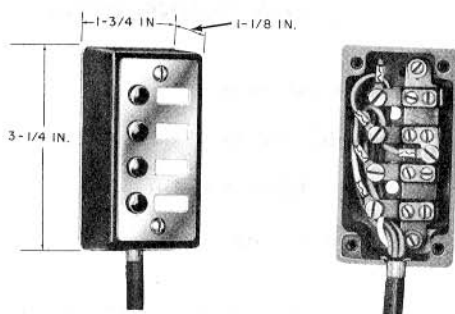

Fig. 1—549A (MD) or 549B (MD) Key (4 Pushbuttons)
- (a) 549A-, B-, C-, and D-type (MD) keys (Fig. 1 and 2):